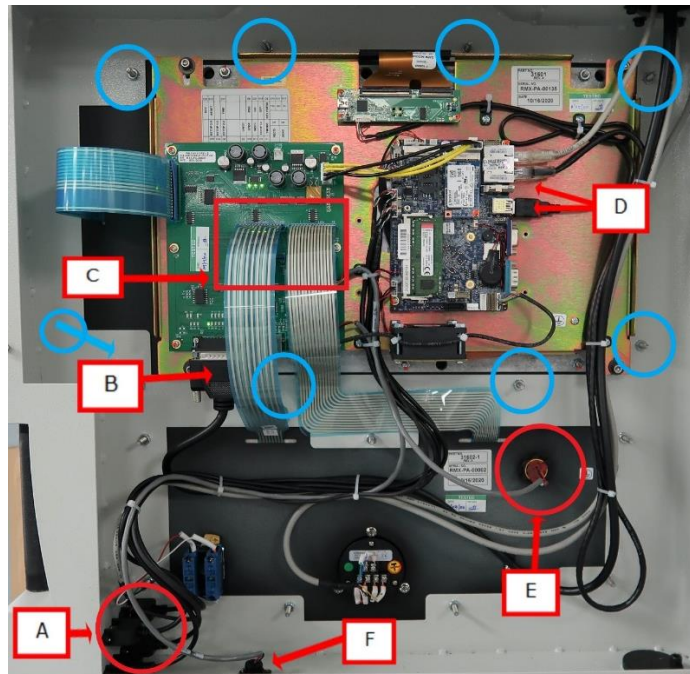

Figure 6.1.5.1 Panel Cabling
4. Support programming panel from the front and remove the 8 bolts from the programming panel perimeter and remove the panel from the front of the pendant as shown in figure 6.1.5.1 with blue circles.
5. Replace programming panel, replace the bolts and tighten just past finger tight, connect the data wires listed in step 3 and shown in figure 6.1.5.1. Replace rear cover and tighten bolts.